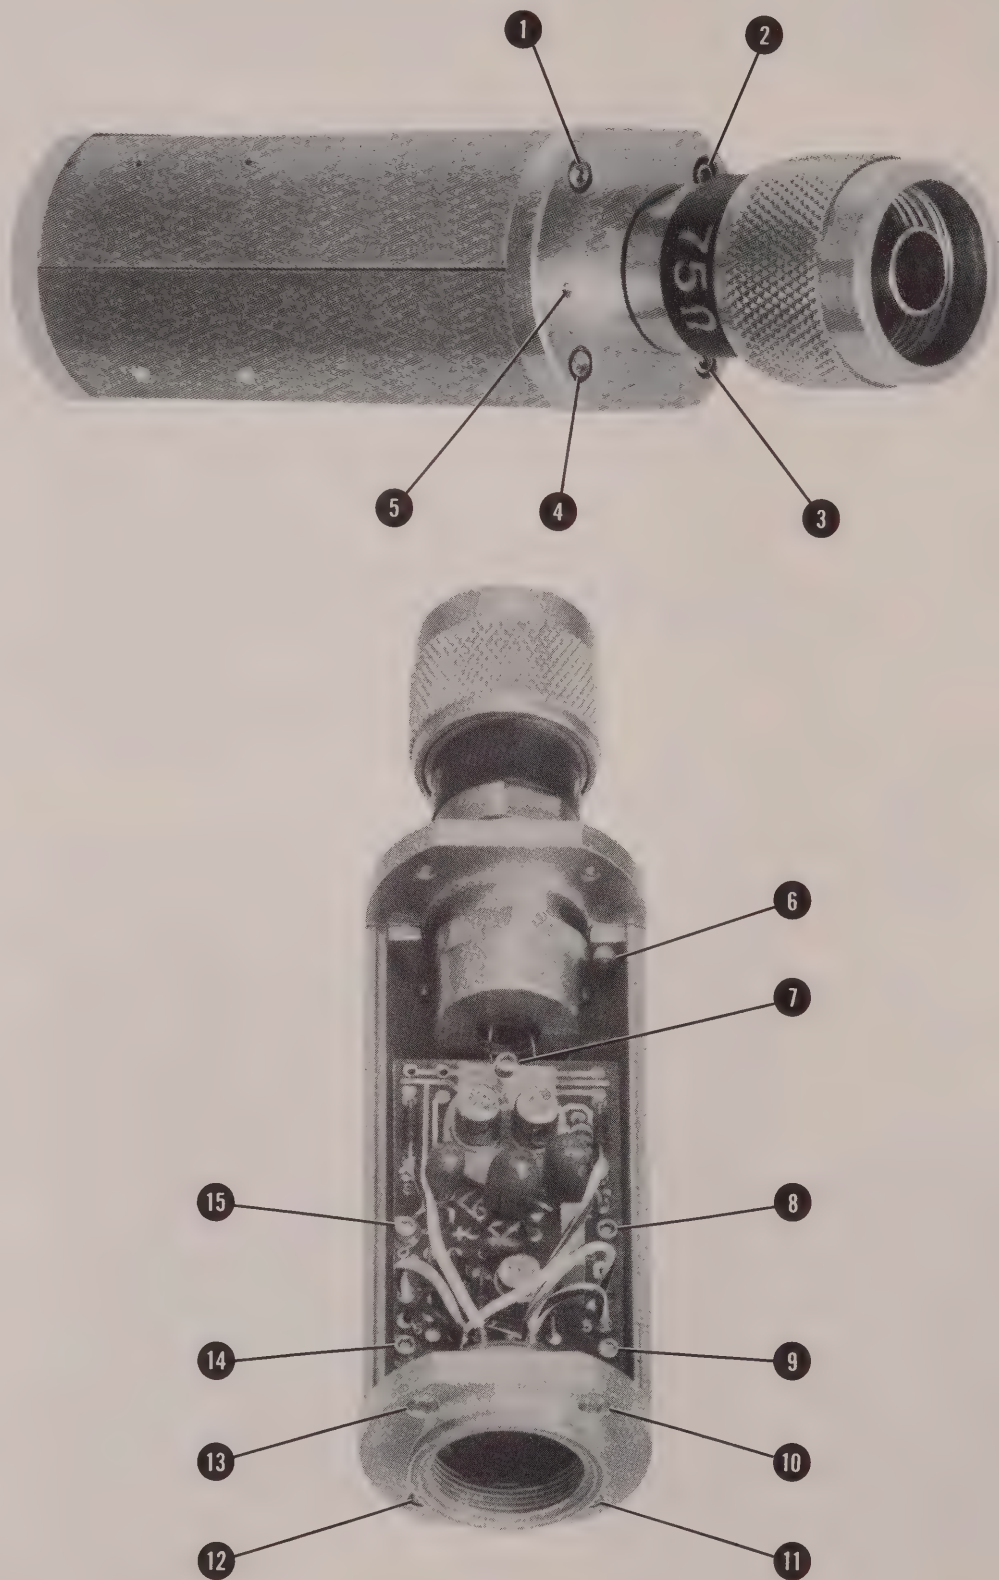

Figure 9. Power Sensor Hardware Locations
c. Position the Power Sensor as shown in Figure 9 (top). The small hole 5 should be on the left side of the RF input connector. Remove
b. Cap screws 8, 9, 11, 12, 14, and 15 must be inserted but not tightened. Refer to Figure 9.